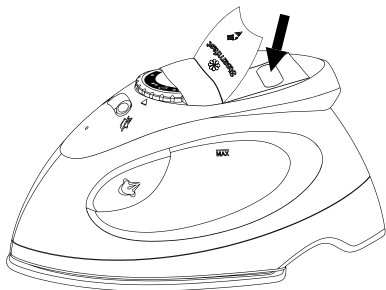

FIGURE 2
4. Open Water Tank Cover. Pour water from Measuring Cup into Water Tank (FIGURE 2). Close Water Tank Cover.